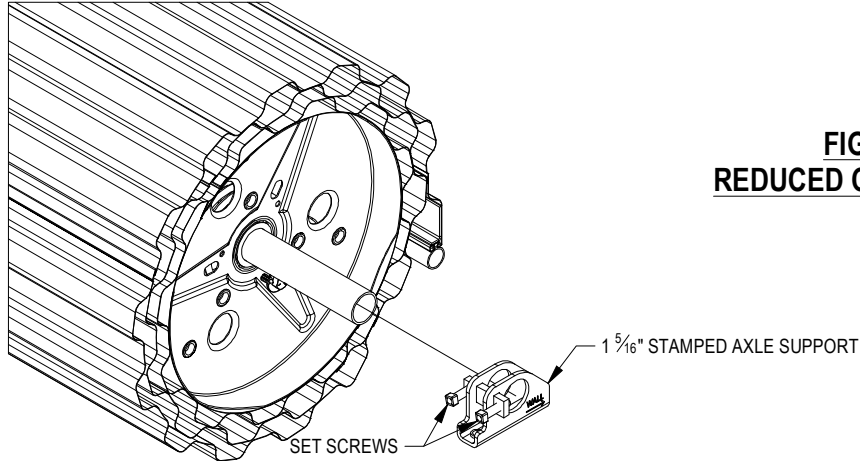

FIGURE 14:
- Fasten 63 tooth cast ring gear to drum using three (3) each $\frac{3}{8}$ " - 16 x 1- $\frac{1}{2}$ " grade 5 hex bolts and $\frac{3}{8}$ " lock washers.
- Install two (2) each $\frac{3}{8}$ " - 16 x 1" square head setscrews in the threaded holes in the cast axle support bracket. These will be tightened against the axle later.
- Slide cast axle support bracket over axle. See Figure 14.